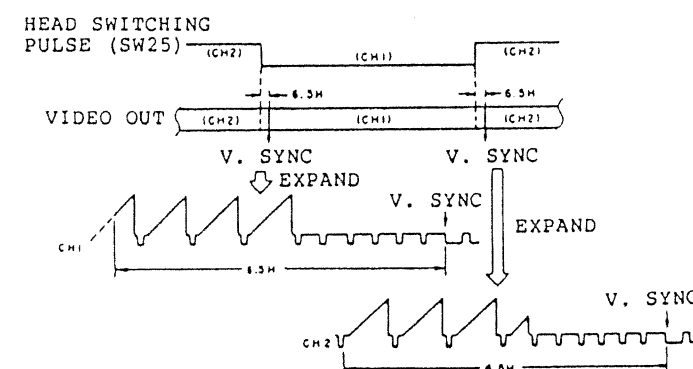

Fig. 4-104
1) Head Switching Point Adjustment (Figs. 4-104, 4-151, 4-152)